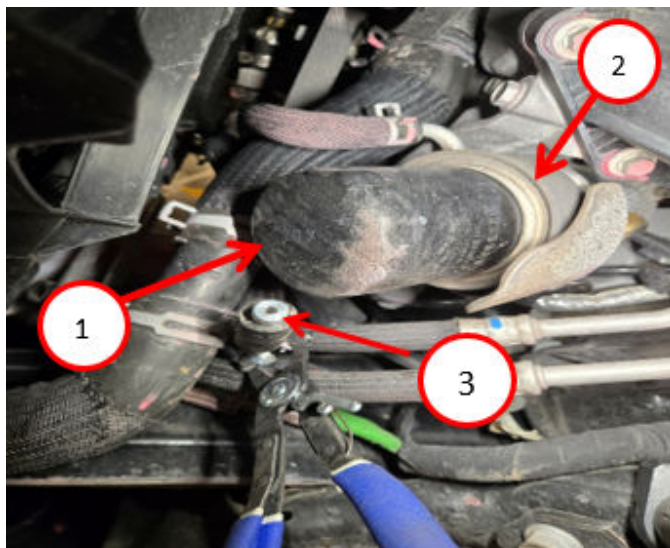

**Fig. 4**
6. Insert the coolant hose flow restrictor Fig. 3 into the coolant hose Fig. 4.